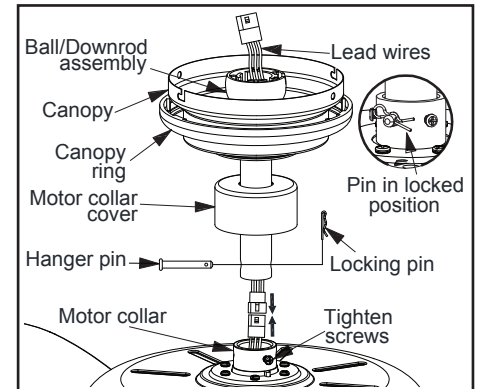

Figure 13
4. Place downrod over canopy and canopy ring, slide the motor collar cover onto the downrod. Connect the extension lead wires to the lead wires from motor. Make sure the quick connectors are clasped firmly. Route the wires through the ball/downrod assembly. (Figure 13)
6. Align the holes at the bottom of the downrod with the holes in the collar on top of the motor housing. (Figure 13 )
7. Carefully insert the hanger pin through the holes in the collar and downrod. Be careful not to jam the hanger pin against the wiring inside the downrod. Insert the locking pin through the hole near the end of the bolt until it snaps into its locked position, as noted in the circle inset of Figure 13.